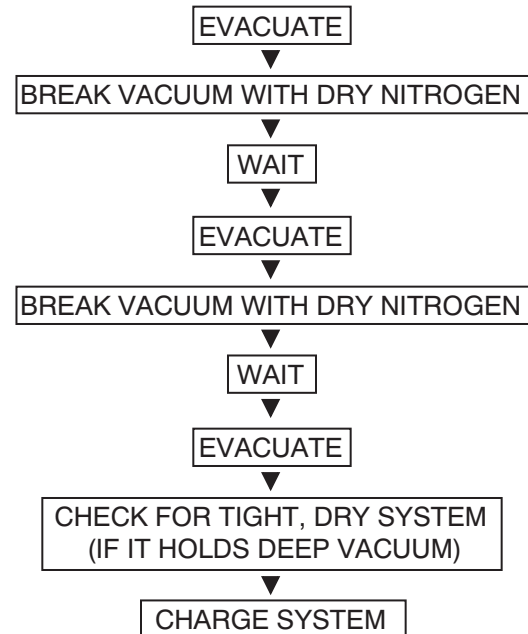

Fig. 5 – Triple Evacuation Method
The triple evacuation method should only be used when system does not contain any water in liquid form and vacuum pump is only capable of pulling down to 28 inches of mercury (711mm Hg). Refer to Fig.5 and proceed as follows:
5. Repeat this procedure as indicated in Fig. 5.